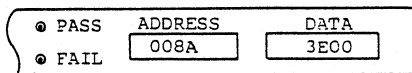

Fig. 5.
- (9) Key in data X'00'. The panel display gives the indication shown in Figure 5.